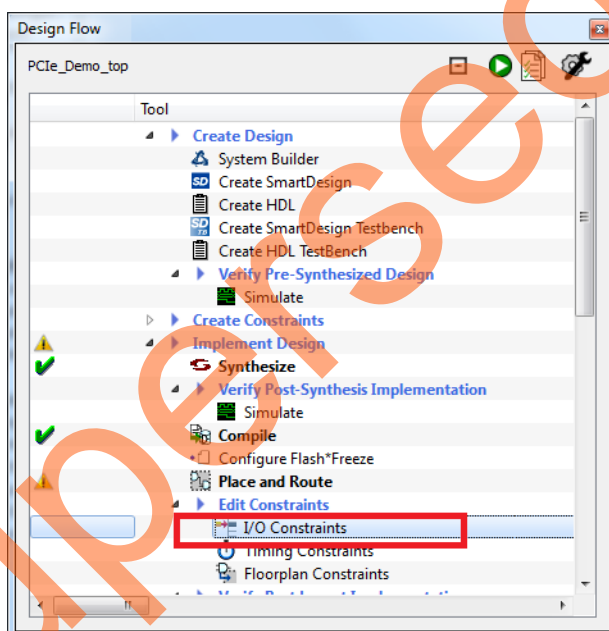

Figure 45 • I/O Constraints
1. Double-click **I/O Constraints** in the **Design Flow** window as shown in Figure 45. The **I/O Editor** window is displayed after completing **Synthesize and Compile**.